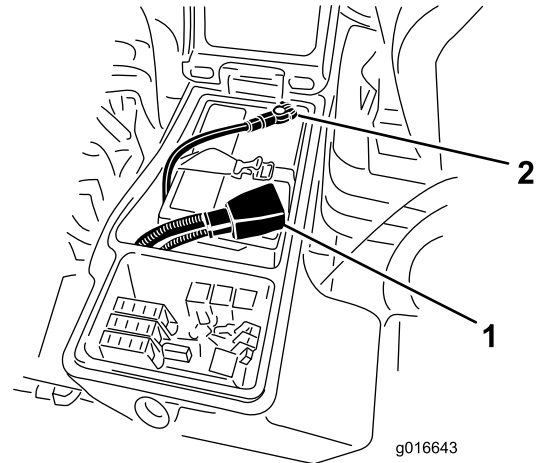

Figure 84
6. Install the positive cable (red) to the positive (+) terminal and the negative cable (black) to the negative (-) terminal of the battery (Figure 84).